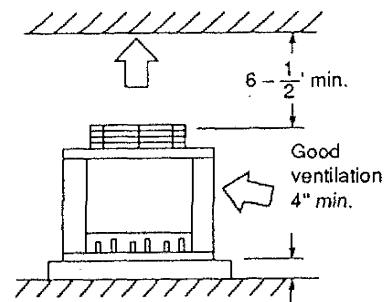

Fig. 6
- allow enough room around the unit for air intake/exhaust and possible maintenance. (Fig. 6)